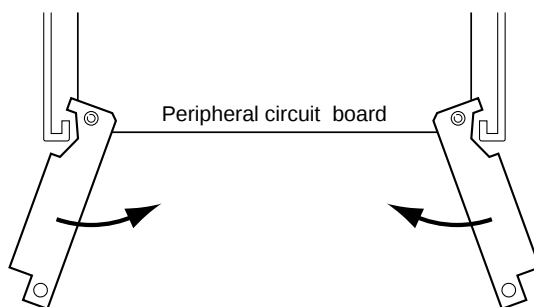

Fig. 3.4.2 Installing the peripheral circuit board
- (1) Unfasten the screws located on the left and right sides of the front panel of the S5U1C63000H2 by turning them counterclockwise, then remove the front panel.
- (2) Insert the peripheral circuit board into the uppermost slot and push it using the jig attached with the S5U1C63000H2 as shown in Figure 3.4.2.